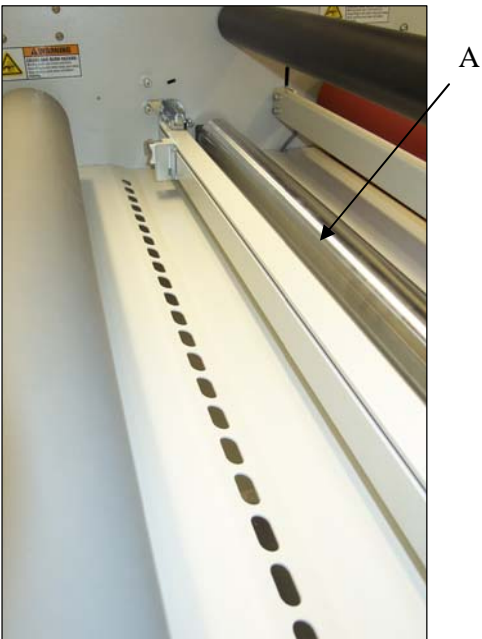

Figure 6
**Removable Chill Idler:** (Fig. 6 – Item A)